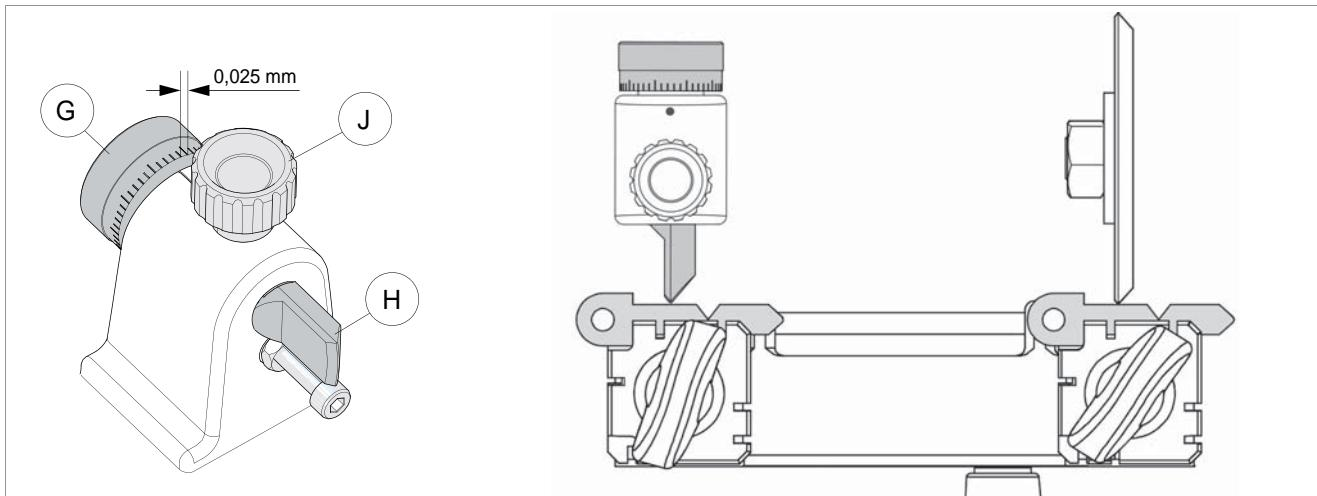
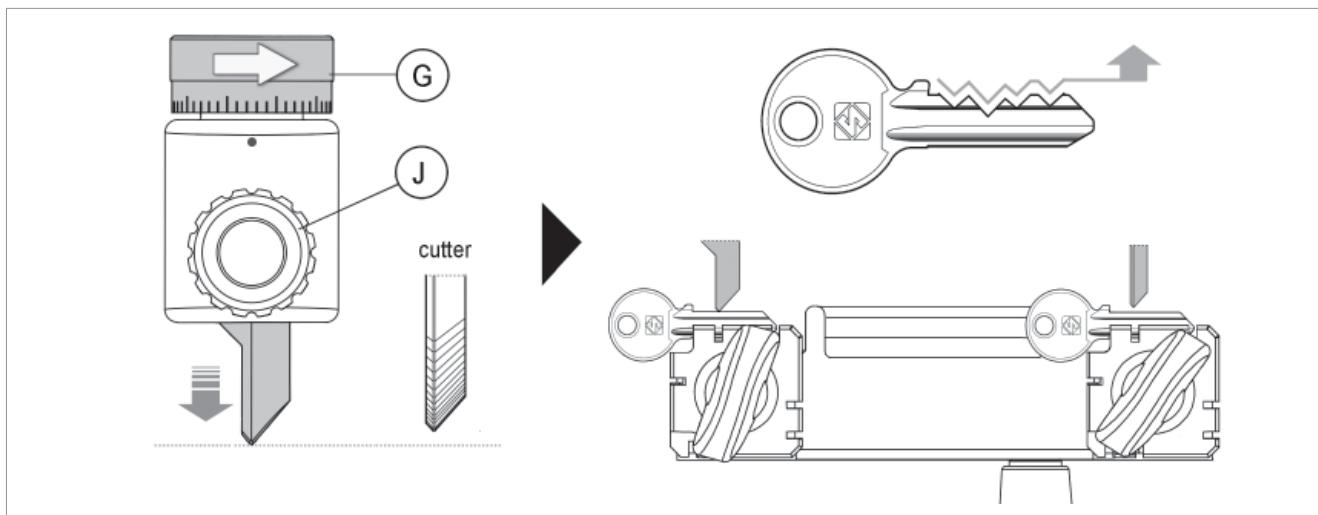

Fig. 17
Fig. 18
- 7) Move the keys into contact with the cutting tool and tracer point (Fig. 17).
- a) loosen the tracer point locking knob (J).
- b) turn the ring nut (G) clockwise to advance the tracer point (shallow cuts) (Fig. 18).
**NOTE: each notch on the centesimal ring corresponds to 0,025 mm (.00098") (Fig. 17).**
- 10) Repeat these operations until regulation is complete, then tighten the tracer point locking knob (J).